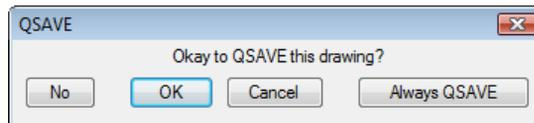
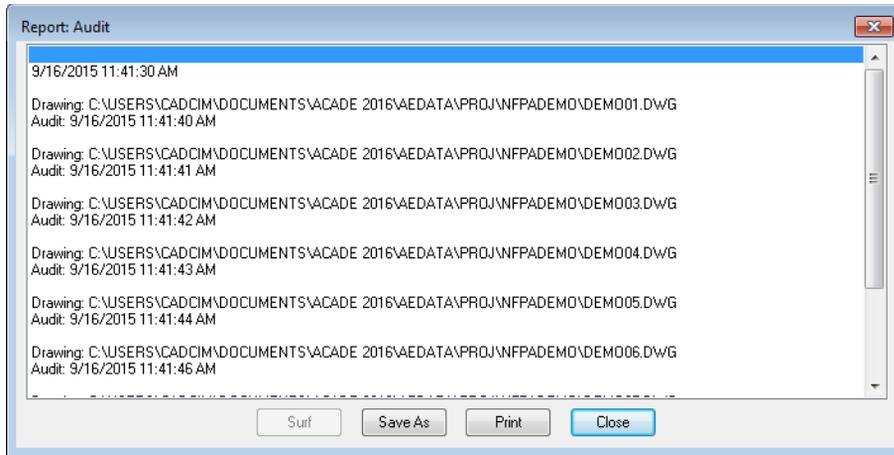

Figure 6-32 The **QSAVE** message box
Figure 6-33 The Report: Audit dialog box
**QSAVE** message box will be displayed, as shown in Figure 6-32. Next, choose the **OK** button in the **QSAVE** message box; the changes made in the current drawing will be saved and the auditing report of drawings will be displayed in the **Report: Audit** dialog box, as shown in Figure 6-33.